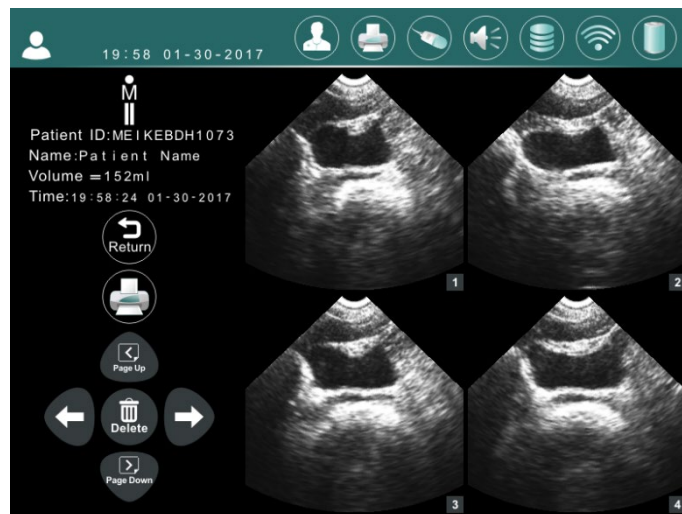

Figure 7-15 Measurement Record Detail Interface
7.11.1 Figure 7-15 is the measurement record detail interface.